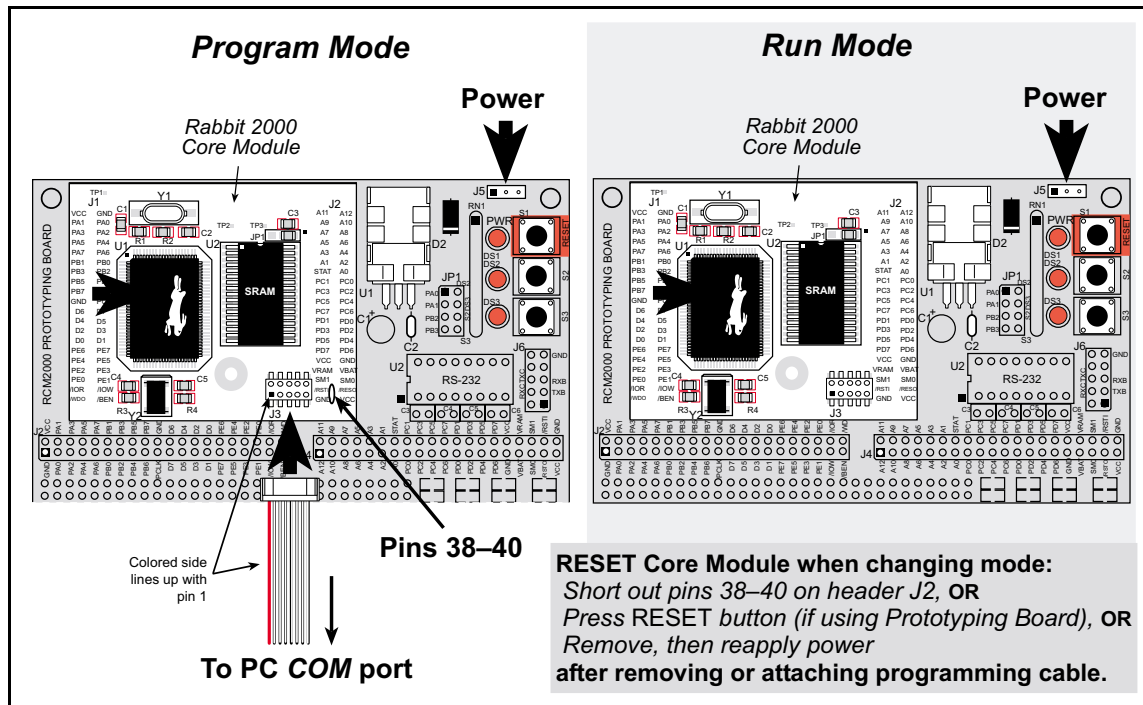
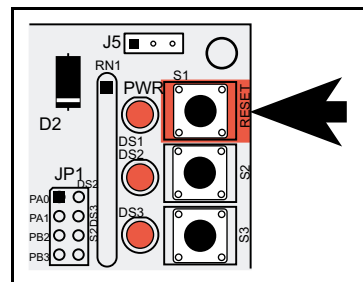

Figure 1. RabbitCore 2000 Program Mode and Run Mode Setup
Figure 2. Location of Prototyping Board Reset Button
The RabbitCore 2000 is automatically in Program Mode when the programming cable is attached, and is automatically in Run Mode when no programming cable is attached. See Figure 1.
2. Reset the RabbitCore 2000. You may do this as explained in Figure 1. Figure 2 shows the location of the RESET button on the Prototyping Board.
4. Reset the RabbitCore 2000. You may do this as explained in Figure 1. Figure 2 shows the location of the RESET button on the Prototyping Board.